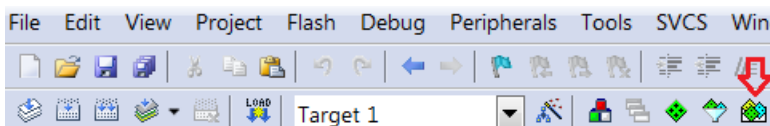

Figure 16. Pack Installer Icon
1. Open the Keil μ Vision IDE and navigate to **Project > Manage > Pack Installer** or click on the icon shown in the figure "Pack Installer Icon" (Figure 16).